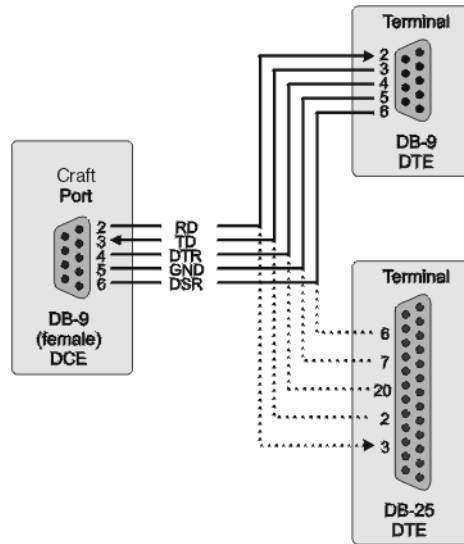

Figure 3. Craft Port to Terminal Connections
Connections between the craft port and a VT-100 terminal are shown in Figure 3 for both DB-9 and DB-25 connectors. Although a cable can be used that connects only the transmit (TD), receive (RD), and ground (GND) signals, the craft port does not automatically log off when the VT-100 terminal is unplugged. Using a cable that also connects the Data Terminal Ready (DTR) signal ensures automatic log off when the VT-100 terminal is unplugged.